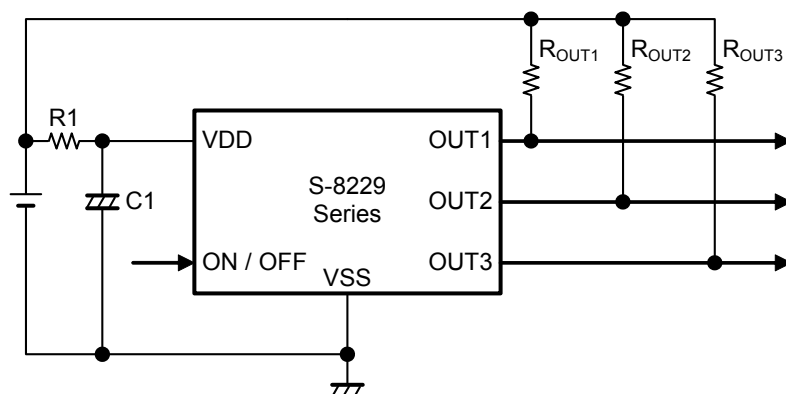

Figure 8
- In applications where a resistor is connected to the input (refer to **Figure 8** in "■ Standard Circuit"), the feed-through current which is generated when the output switches causes a voltage drop equal to feed-through current $\times$ input resistance. In this state, the feed-through current stops and its resultant voltage drop disappears, and the output switches. The feed-through current is then generated again, a voltage drop appears. Note that an oscillation may be generated for this reason.